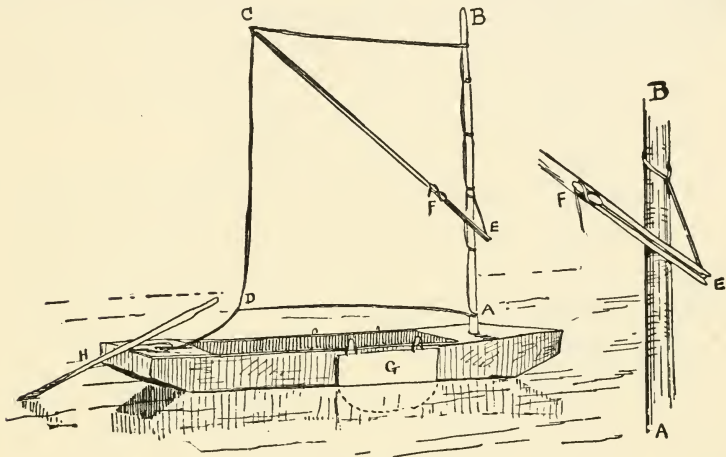
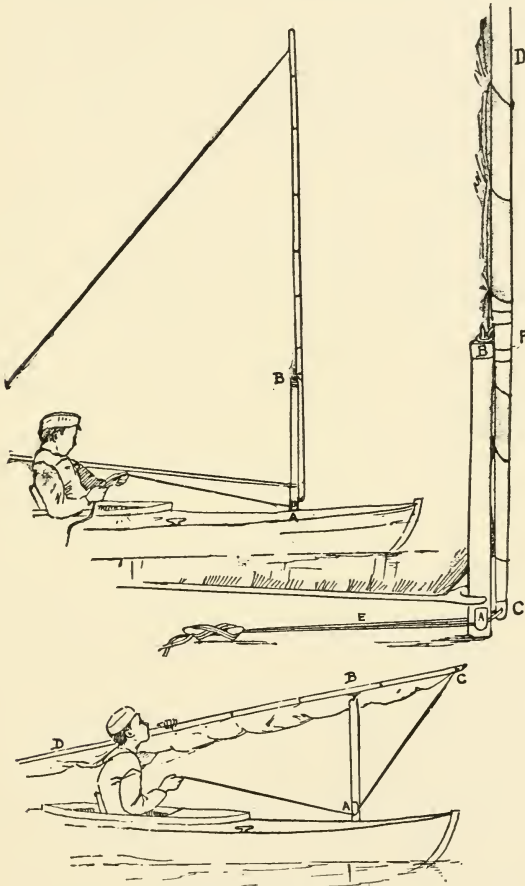
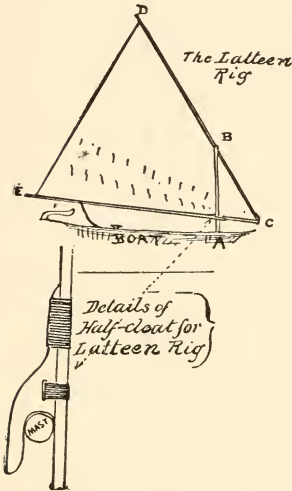

Fig. 143.—A simple rig.
Fig. 145.—A new device.
Fig. 146.—The latteen rig.
I will suppose that the reader has the use of a broad, flat-bottomed boat without any rudder. (See Fig. 143.) She cannot be made to work like a racing yacht under canvas, but lots of fun can be had out of her.
C, E, is trimmed so that the loop at C will fit over it but not slip down. The lower end is simply notched to receive a short line called a “snotter,” as shown in the detailed drawing at the right of the cut (Fig. 143). It will be readily understood that, when the sprit is pushed upward in the direction of C, the sail will stand spread out. The line is placed in the notch at E and pulled up until the sail sets properly, when it is made fast to a cleat or to a cross-piece at F. This device is in common use and has its advantages, but a simple loop for the foot of the sprit to rest in is more easily made and will do nearly as well. H is an oar for steering. Having thus described the simplest rig possible, we may turn our attention to more elegant and elaborate but no' always preferable outfits.
Fig. 145 shows a device, published for the first time in the *St. Nicholas Magazine* for September, 1880, which enables the sailor to step and unstep his mast, and hoist or lower his sail without leaving his seat—a matter of great importance when the boat is light and tottlish, as in the case of that most beautiful of small craft, the modern canoe, where the navigator sits habitually amidships. The lower mast (A, B, Fig. 145) stands about two and a half feet above the deck. It is fitted at the head with a metal ferrule and pin, and just above the deck with two half-cleats or other similar devices (A). The topmast (C, D) is fitted at F with a stout ring, and has double halyards (E) rove through or around its foot. The lower mast being in position (see lower part of Fig. 145), the canoeist desiring to make sail brings the boat's head to the wind, takes the topmast with the sail loosely furled in one hand and the halyards in the other. It is easy for him by raising this mast, without leaving his seat, to pass the halyards one on each side of the lower mast and let them fall into place close to the deck under the half-cleats at A. Then, holding the halyards taut enough to keep them in position, he will hook the topmast ring over the pin in the lower mast-head and haul away (see top part of Fig. 145). The mast will rise into place, where it is made fast.
is recommended only for boats which are "stiff"—not tottlish, that is. The fact that a considerable portion of the sail projects forward of the mast renders it awkward in case of a sudden shift of wind. Its most convenient form is shown in Fig. 146. The arrangement for shipping and unshipping the yard is precisely like that shown in Fig. 145—a short lower mast with a pin at the top and a ring fitted to the yard. It has a boom at the foot which is joined to the yard at C by means of a hook or a
simple lashing, having sufficient play to allow the two spars to shut up together like a pair of dividers. The boom (C, E) has, where it meets the short lower mast, a half-cleat, or jaw, shown in detail at the bottom of the cut (Fig. 146), the circle representing a cross-section of the mast. This should be lashed to the boom, as screws or bolts would weaken it. To take in sail, the boatman brings the boat to the wind, seizes the boom and draws it toward him. This disengages it from the mast. He then shoves it forward, when the yard (C, D) falls of its own weight into his hands and can be at once lifted clear of the lower mast. To keep the sail flat, it is possible to arrange a collar on the lower mast so that the boom, when once in position, cannot slip upward and suffer the sail to bag.
Nothing has been said about reefing thus far, because small boats under the management of beginners should not be afloat in a "reefing breeze." Reefing is the operation of reducing the spread of sail when the wind becomes too fresh. If you will look at Fig. 146 you will see rows of short marks on the sail above the boom. These are "reef-points"—bits of line about a foot long passing through holes in the sail and knotted so that they will not slip. In reefing, the sail is lowered and that portion of it between the boom and the reef-points is gathered together, and the points are tied around both it and the boom. When the lower row of points is used it is a single reef. Both rows together are a double reef.
with the wind blowing toward the shore. Row out a little way, and then sail in any direction in which you can make the boat go, straight back to shore if you can, with the sail out nearly at right angles with the boat. Then try running along shore with the sheet hauled in a little and the sail on the side nearest the shore. You will soon learn what your craft can do, and will probably find that she will make very little, if any, headway to windward. This is partly because she slides sidewise over the water. To prevent it you may use a "lee-board"—namely, a broad board hung over the side of the boat (G, Fig. 143). This must be held by stout lines, as the strain upon it is very heavy. It should be placed a little forward of the middle of the boat. It must be on the side away from the wind—the lee side—and must
In small boats it is sometimes desirable to sit amidships, because sitting in the stern raises the bow too high out of water; steering may be done with an oar over the lee side, or with "yoke-lines" attached to a cross-piece on the rudder-head, or even to the tiller. In this last case the lines must be rove through rings or pulleys at the sides of the boat opposite the end of the tiller. When the handle of the oar (H, Fig. 143)—or the tiller (F, Fig. 146) if a rudder is used—is pushed to the right, the boat will turn to the left, and *vice versa*. The science of steering consists in knowing when to push and how much to push—very simple, you see, in the statement, but not always so easy in practice.